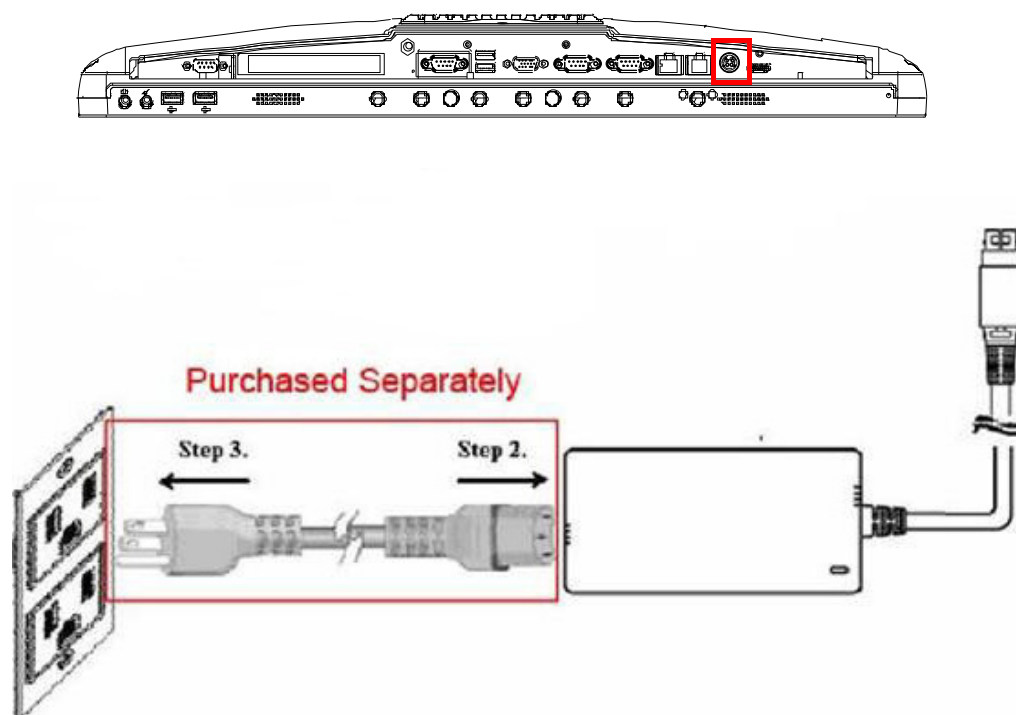

Figure 2.2 Connecting the power
1. Connect the female end of the power adapter to the DC jack of the panel PC. (See Figure 2.2.)